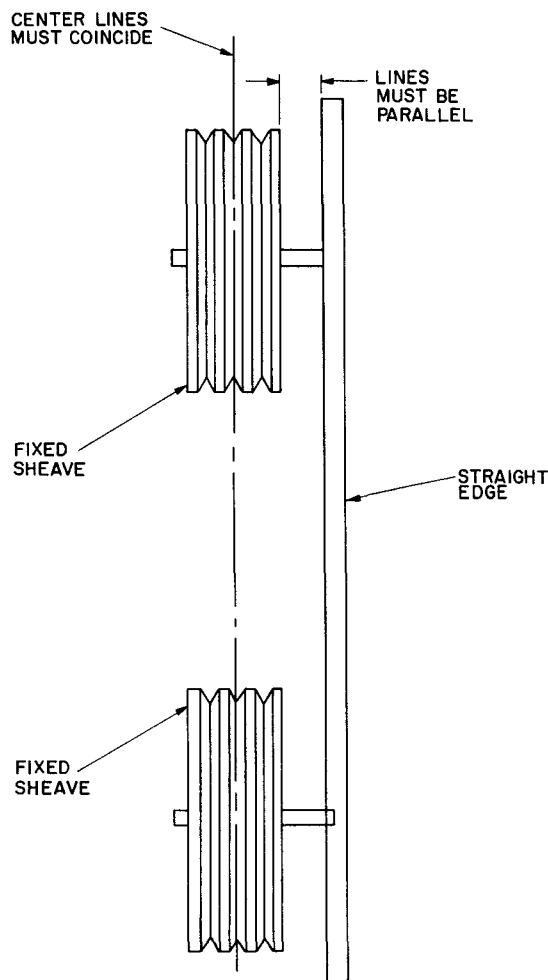

**Fig. 27 — Pulley Adjustment**
1. Turn off unit power. See Fig. 27.